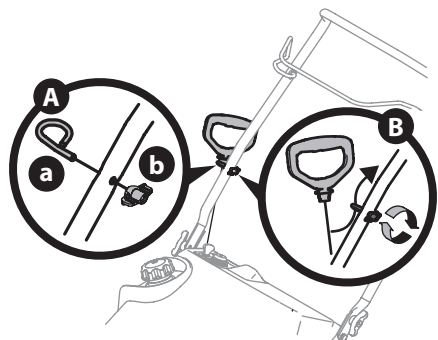

Figure 15
2. Place the eye bolt (a) and handle knob (b) on the upper handle (Figure 15, Inset A). Do not fully tighten the hardware until instructed to do so.
4. Slip the recoil starter rope into the eye bolt (a) from the back of the snow blower (Figure 15, Inset B).